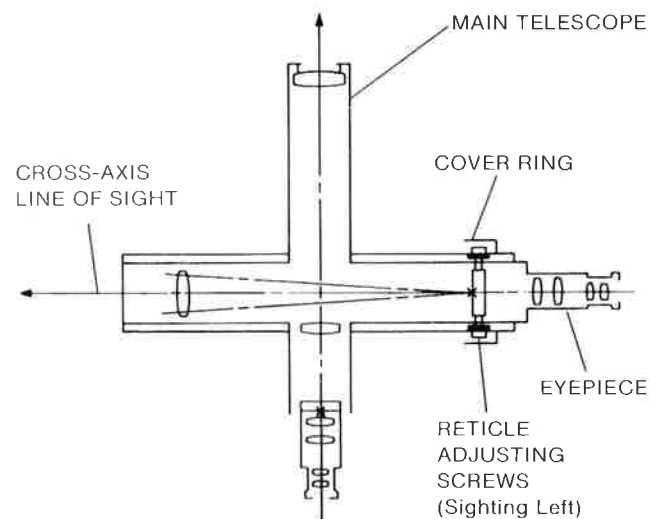

Figure 3-5. Schematic View of Cross-Axis Optical System in Jig Transit Telescope Square
2. **Adjustment 9.** (See Figure 3-5.)